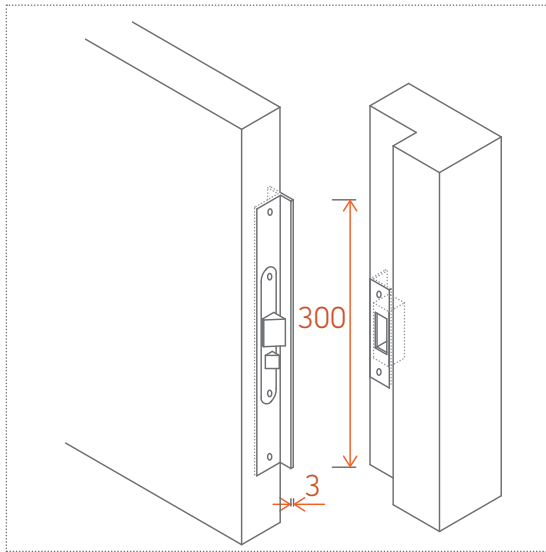

Figure 3: Cover plate
- A **cover plate** is defined as a steel or brass T-profile with a length of at least 30 cm and a thickness of 3 mm installed at the lock of a non-rebated door. (figure 3).